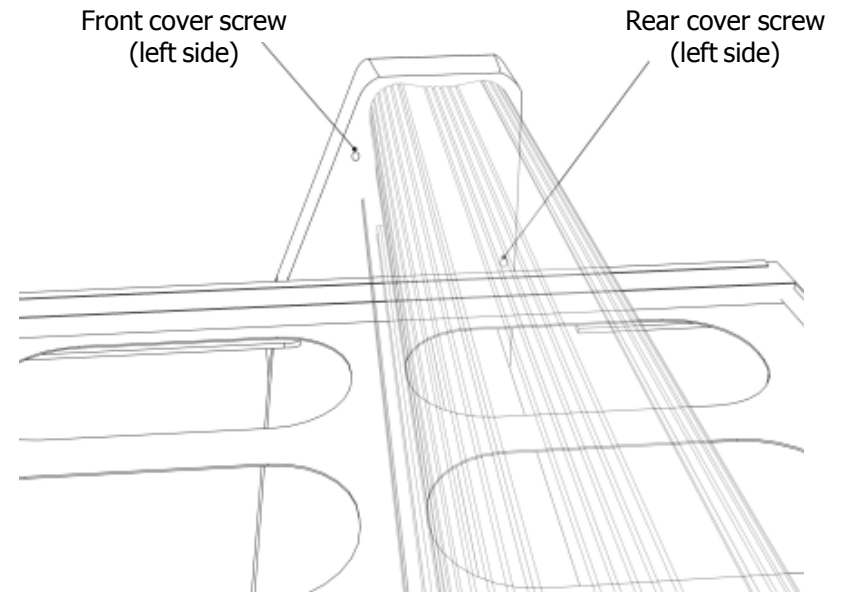

Fig 38 - Left side cover screws (Black phillips head)
3. Remove the two black phillips head screws, and remove the left cover. *See figure 38 on the next page.*